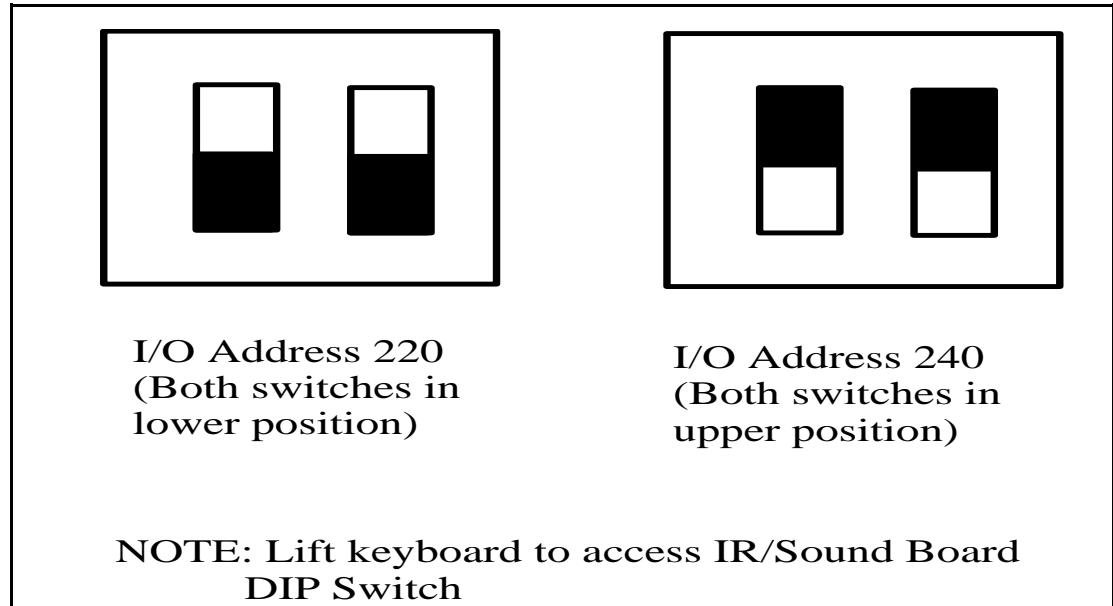

Figure 5-3 I/O Address Setting (IR/Sound Board)
- I/O Address Conflict - The multimedia sound capability of the Extensa uses I/O address 220. However, this may conflict with some third-party PCMCIA cards like the IBM Token Ring card. In this case, reset the Extensa multimedia sound to I/O address 240 as shown in Figure 5-3.